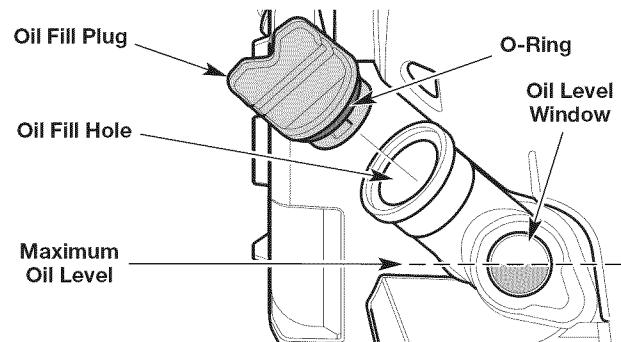

Fig. 25
3. Look into the oil level window; use a flashlight if necessary. **The oil level should fill the window approximately halfway** (Fig. 25). If the oil level is too low, add oil. Refer to Adding Oil.
1. Clean the area around the oil fill plug (Fig. 25) to prevent debris from entering the oil fill hole.
3. Add oil to the oil fill hole until the oil level is approximately halfway up the oil level window (Fig. 25).
5. Make sure the O-ring is in place on the oil fill plug (Fig. 25).
7. Make sure the O-ring is in place on the oil fill plug (Fig. 25).